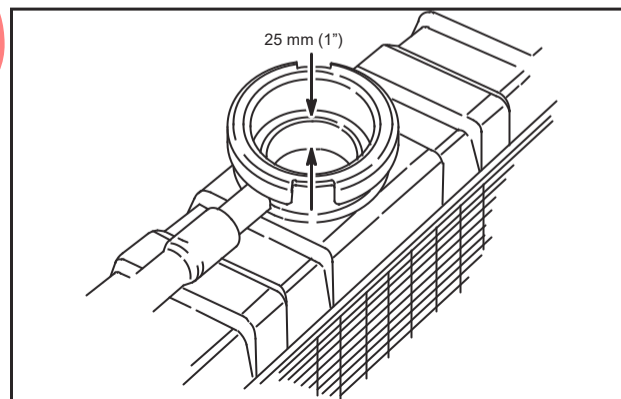

Fig. 2 – Adding Coolant
5. Check coolant level in radiator and add coolant as required, Fig. 2.